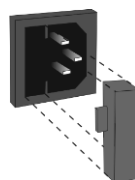

Figure 4. Fuse holder
8.3 **Fuse replacement.** Disconnect the power cable from the mains. Disconnect the power cable from the socket on the rear of the unit. Open the fuse holder, located near the socket (fig. 4). Check and replace with a correct fuse, if necessary, see table below: